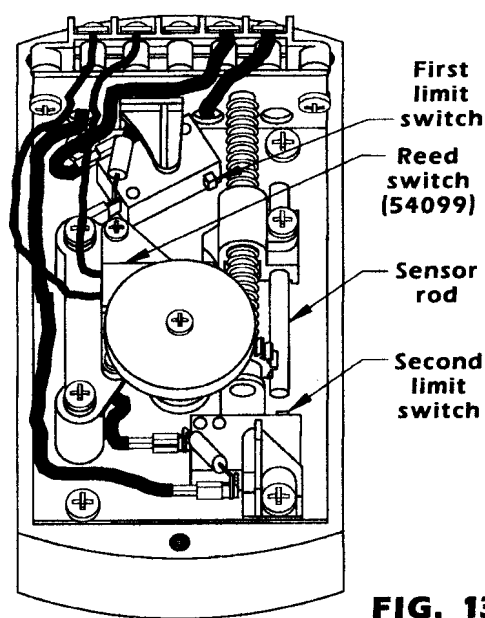

FIG. 13
3. Note the factory preset position (at the first limit switch) in the actuator motor head. Using the actuator motor head, move the drive ring to approximately where your first antenna limit (the east limits in the northern hemisphere and west limits in the southern hemisphere) needs to be. Disconnect the actuator motor head from the CD Sipco gearbox by loosening the two $\frac{5}{16}$ " x $\frac{5}{8}$ " bolts. Run the actuator motor head back to the factory preset limit. Reattach the actuator motor head to the CD Sipco gearbox by tightening (without overtightening) the two $\frac{5}{16}$ " x $\frac{5}{8}$ " bolts. (See Fig. 13)
4. Now move the drive ring to where the other antenna limits are to be (the west limits in the northern hemisphere and east limits in the southern hemisphere). Loosen the Phillips-head screw that holds the sensor rod in the actuator motor head. Move the sensor rod until it depresses the second limit switch. Tighten the screw back onto the sensor rod just enough to keep the sensor rod from moving. (See Fig. 13)